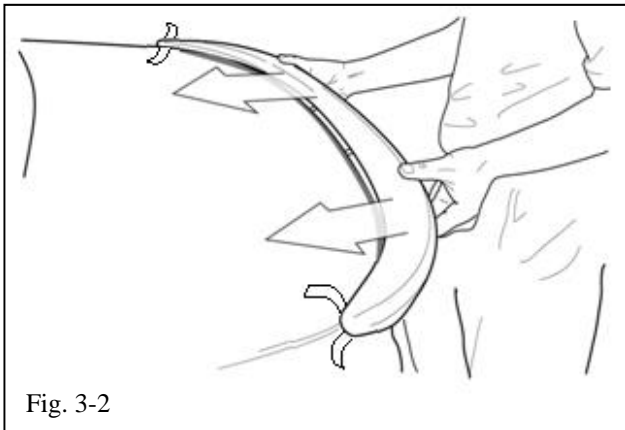

Fig. 3-2
- (f) Position the spoiler behind the trunk lid with the drill holes aligned to the spoiler studs and clips. The two studs go into the two inboard 9.0 mm drilled holes aligning the spoiler side to side and vertically (Fig. 3-2).